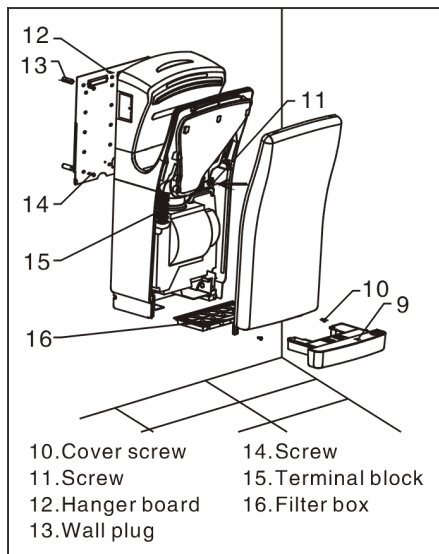

Fig.2
3. Remove and keep the tray, the 2 cover screws and the cover (see fig.2).